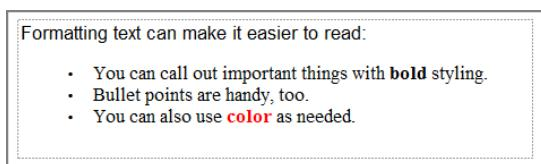

Figure 4-3
**NOTE** You are not limited to a single style within a text box. Rich text formatting is supported to enable the presentation of well-structured text. Limited HTML content is also supported within text boxes (see Figure 4-3).